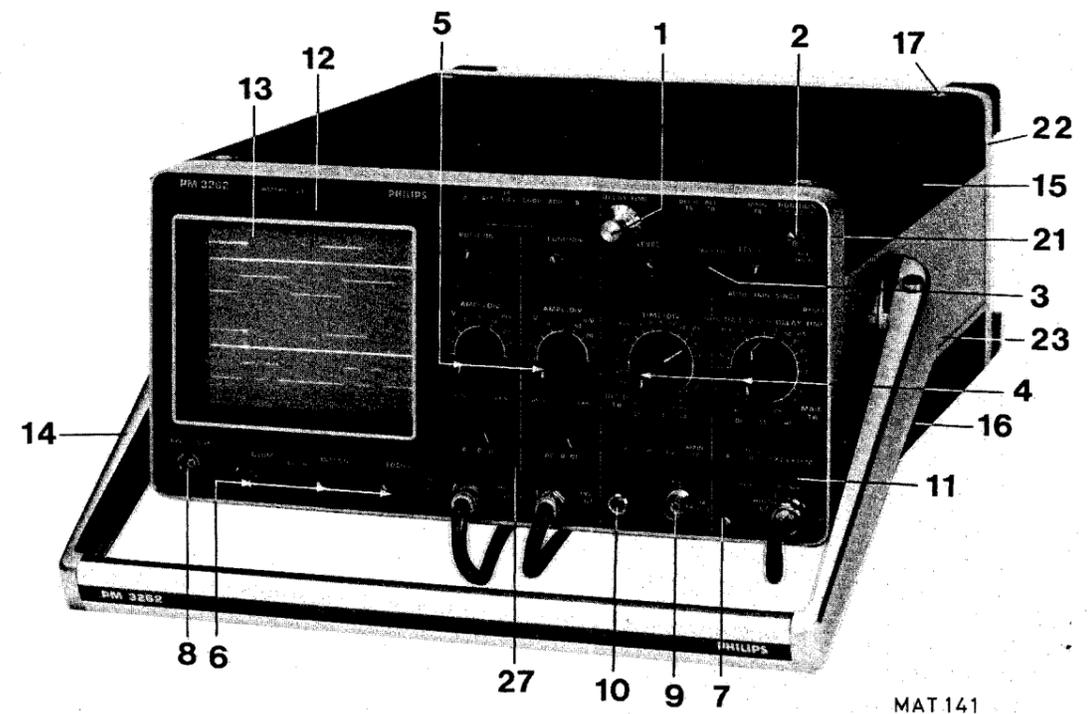

Fig. 3.37. Front view showing item numbers
3.8.1. Mechanical parts (see Fig. 3.37. and 3.38.)